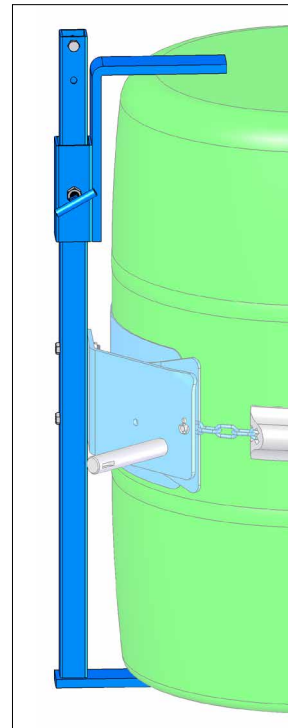

Figure 2.1
- Bracket Assembly Kit # 4556-P** is required to handle a RIMLESS plastic drum (figure 2.1), and is also recommended for a fiber drum. The Bracket adjusts for a 31" to 39" (79 to 99 cm) tall drum. You can also handle a rimmed drum with the Bracket installed.